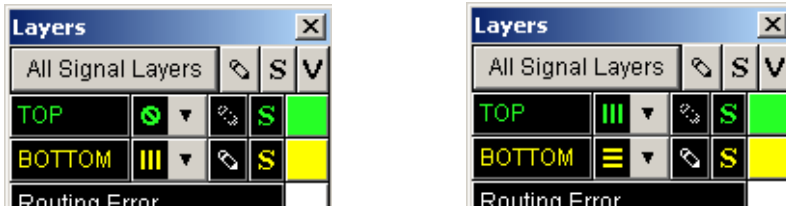

Figure 17. Settings in the Layers box for single-sided routing on the bottom layer and double-sided routing on both layers.
3. Tell PCB Router to route only the bottom layer. Choose `View > Layers...` from the menu bar. Turn routing off for the top layer by clicking on the drop-down menu next to TOP as shown in figure 17 and selecting the \odot symbol. You might like to experiment with the setting of the BOTTOM layer. The directions are hints to the router but in practice tracks are drawn in both directions. Click Close when you have finished.